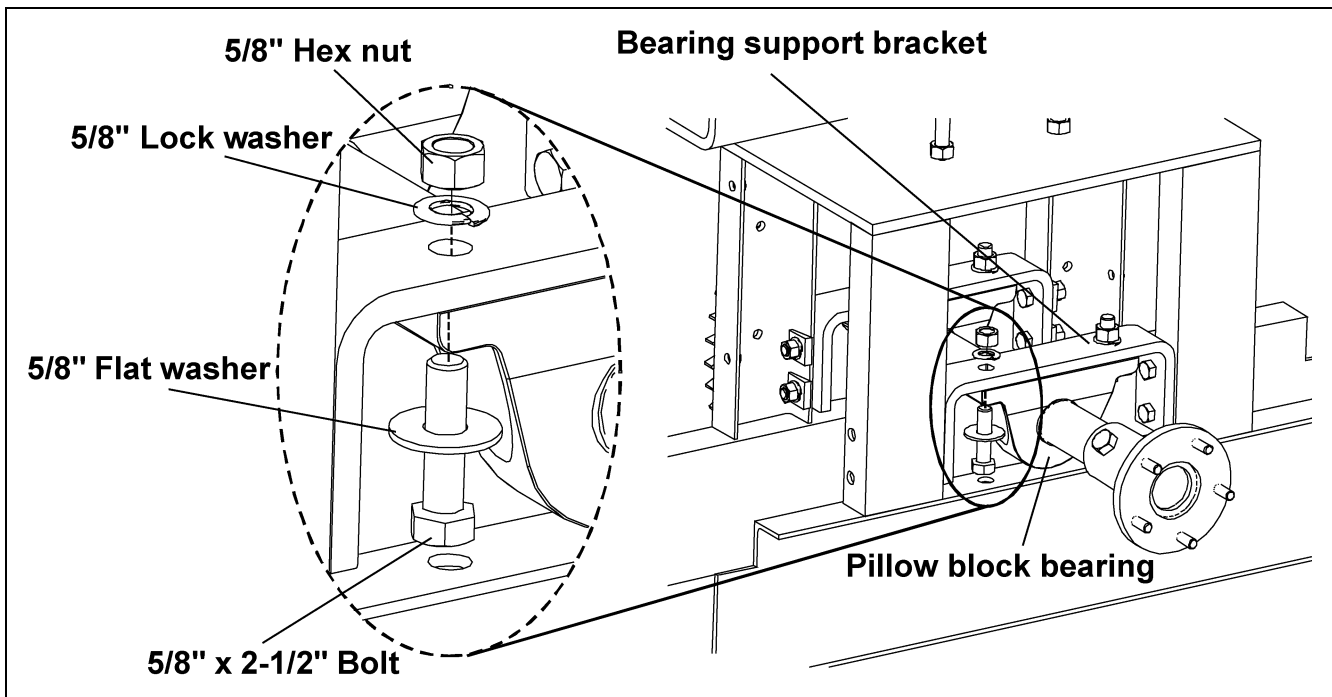

Figure 5T
F. Attach pillow block bearings to the bearing support brackets using 5/8" x 2-1/2" bolts, 5/8" lock and flat washers, and 5/8" hex nuts. (See Figure 5T.)